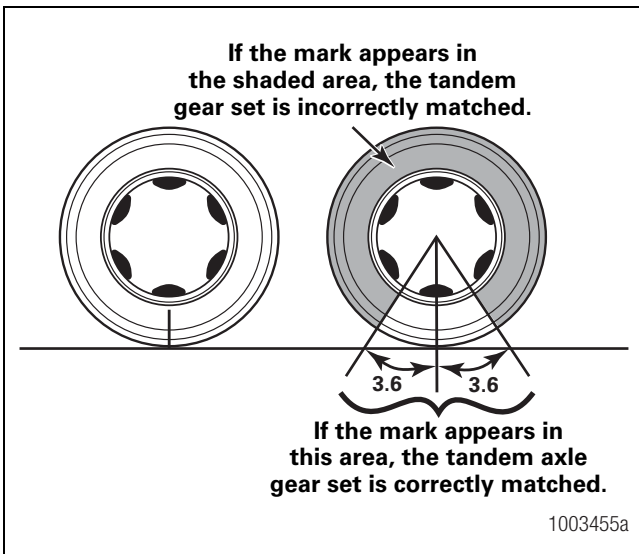

Figure 4.17
7. Note the positions of the tire marks you previously made. On a correctly matched tandem axle gear set, both tire marks will be within ± 3.6 degrees of each other. Figure 4.17.